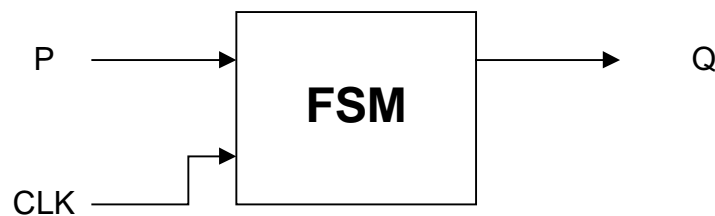

Figure 6
7. *Figure 6* shows a sequential circuit with one input P and one output Q . P changes shortly after the rising edge of CLK . On power-up, the Finite State Machine is always reset to an idle state.